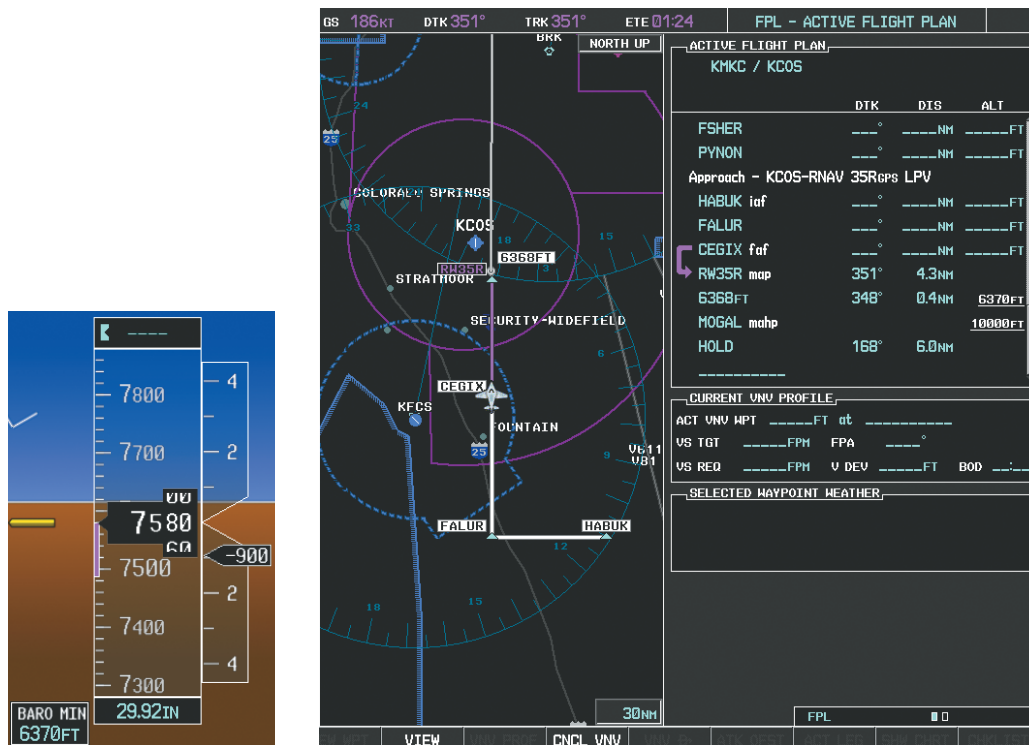

Figure 5-143 Descending to the Missed Approach Point
- 24) After crossing CEGIX, the aircraft continues following the glidepath to maintain the descent to “AT or ABOVE” 6,370 feet at the Missed Approach Point (MAP) (RW35R) as seen in Figure 5-143.